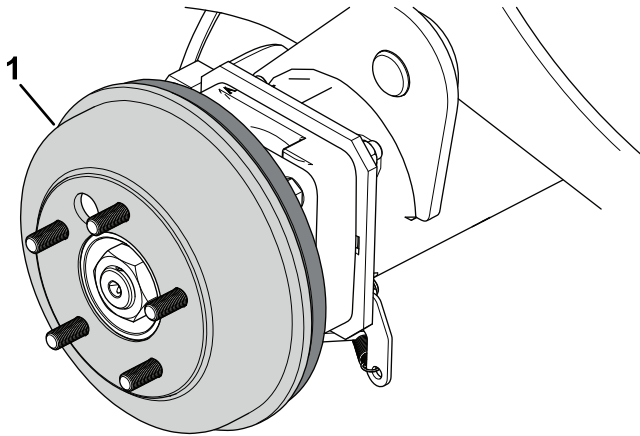

Figure 72
4. Remove the brake drums (Figure 72) by hand.